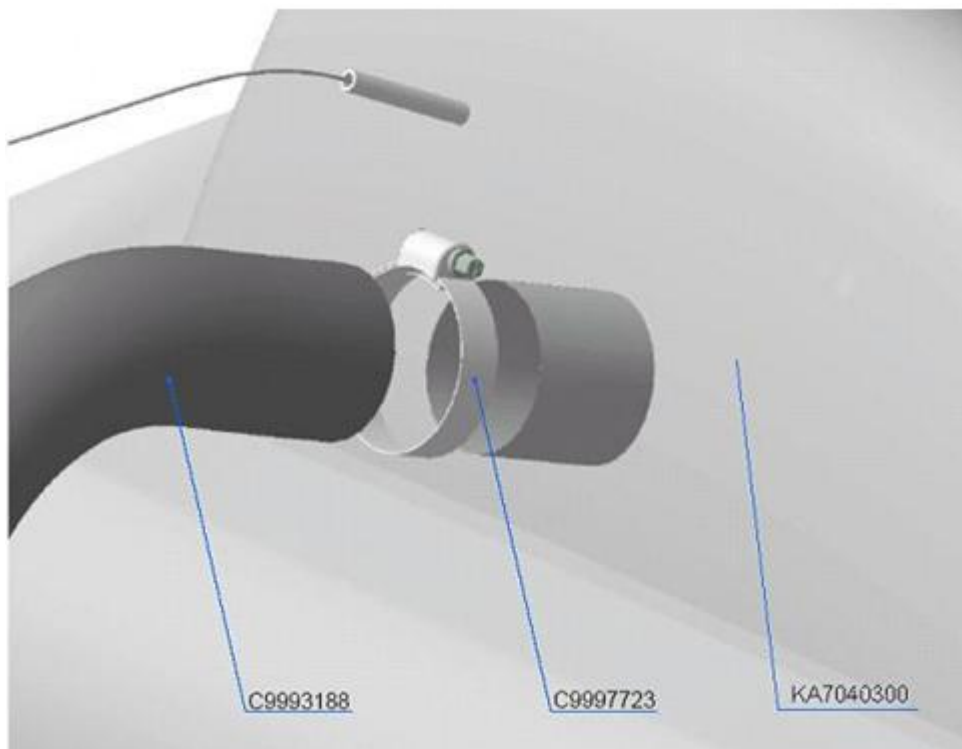

Fig. 8
- b. Unscrew the bolt by a cross-screwdriver or wrench with header 7 and release the clamp C9997723 Clamp 40-60 that secures the hose C9993188 (AERODUCT tube CEET-7 1-3/4 ID) near KB7040300 (Air mixer) under the instrument board. Fig. 8.